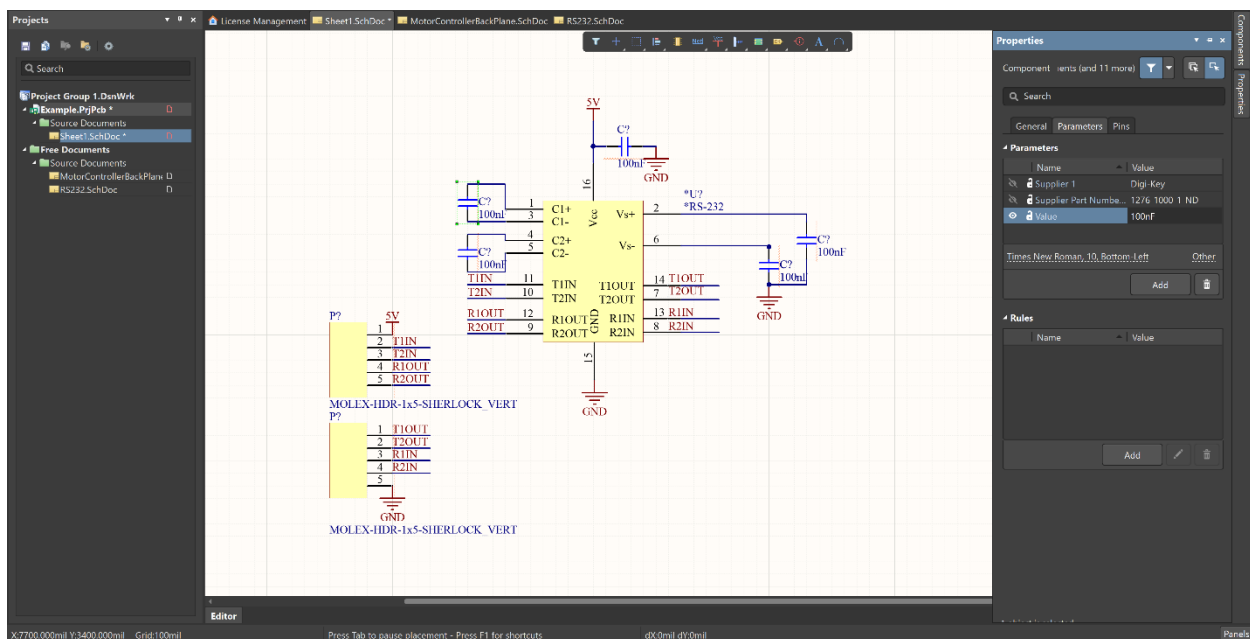

Figure 17: Screen to Change Capacitor Values
35. Repeat this process for your other four capacitors. If you did it right, you should end up with a schematic similar to Figure 17.